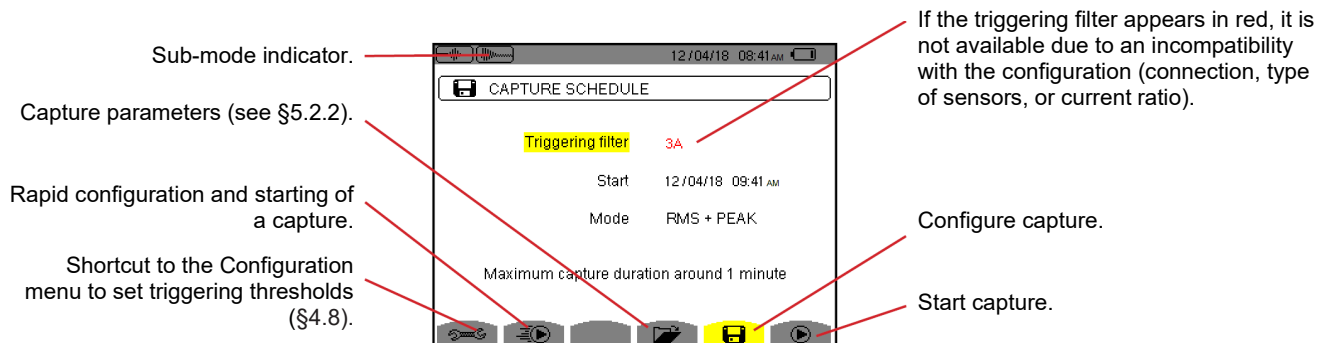

Figure 5-6
- If no capture has been made, the Capture Schedule screen (Figure 5-6) is displayed.